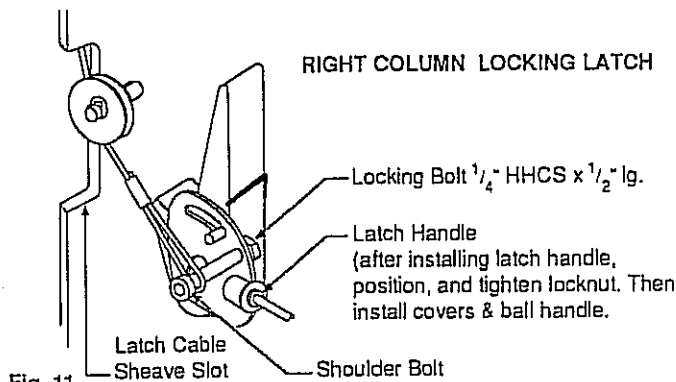
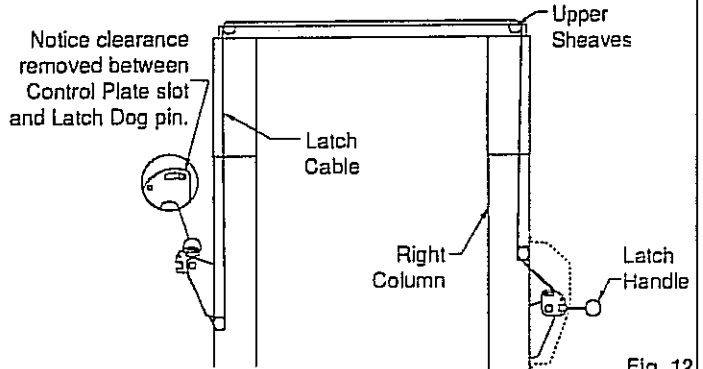

Fig. 11
Fig. 12
12. **Latch Cable:** Lower both carriages down so that the top of each carriage is below the latch cable sheave slot. Slip loop end of cable over end of shoulder bolt on right side latch control plate, Fig. 11. Feed the other end of the cable through the slot making sure that the cable is running under the bottom side of the sheave, Fig. 11, and inside the right column. Route cable inside column and over the top of the upper sheave, Fig. 12. Continue routing cable to the left column upper sheave, Fig. 12 & Fig.9 (C), making sure the cable goes over the top of the upper left column sheave. Note how cable goes between the equalizer cable sheaves. Bring the cable down inside the left column and feed the end of the cable through the sheave slot so that the cable is now back outside the column, Fig. 13. Route cable under the bottom side of the sheave. **At this point you MUST install the right column latch cover Fig.14, and latch Handle Fig.11, then continue.** Insert cable up through cable clamp, loop around shoulder bolt and
back down through the clamp. Next, pull the Control Plate down, Fig. 13, to eliminate any clearance between the Control Plate slot and the Latch Dog pin (making sure the Latch Dog itself does not move), also see Fig.12, and pull cable snug to remove any excessive slack and wrench tighten clamp, Fig. 13. When raising, listen to latches to be sure that both latch dogs fall into latch slots. If they do not, Loosen clamp and adjust tension as necessary. When latches are adjusted to desired tension, hold clamp with pliers and tighten clamp securely. See Fig.14 & "Locking Latch Adjustments" below for further adjustment procedures. Recheck, make sure cable is properly routed through sheaves. Then install left latch cover Fig. 14.